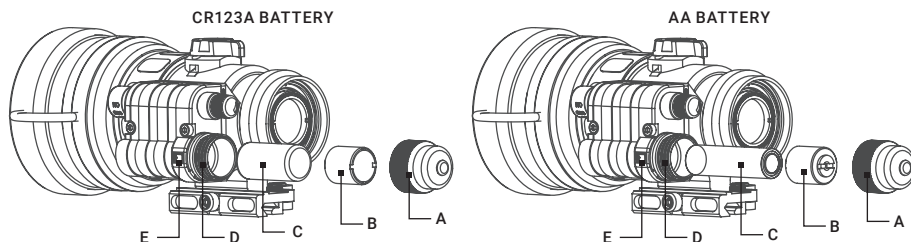

FIGURE 2-1. COMANCHE-22 BATTERY INSTALLATION
Install the battery as follows (refer to Figure 2-1):
1. Unscrew the battery cap (A) and check the position of the adapter (B). See Figure 2-1 for the correct positioning of the threaded adapter, which changes depending on the battery being installed.